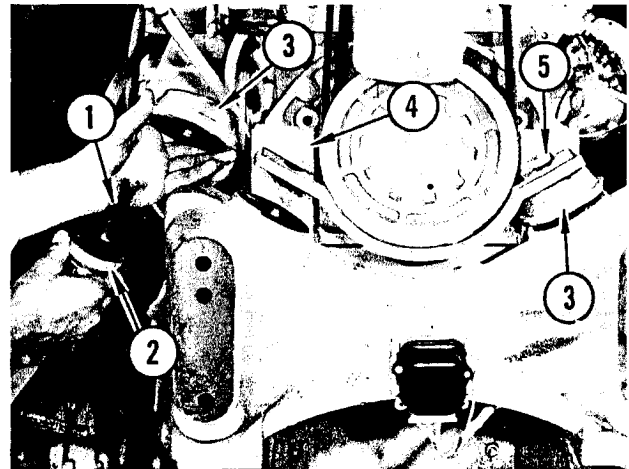

FIGURE 117. ENGINE INSTALLATION
2. Refer to Figure 117 to install rear engine mounts (radiator end). Install capscrew (1) with rubber biscuit (2), up through engine support and rubber mount (3) and thread into engine bracket (4). Tighten capscrew until rubber biscuit (2) can be rotated by hand with effort. Install and tighten locknut (5).